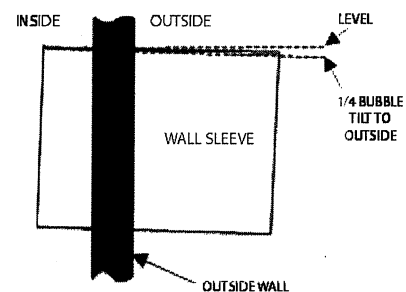

Fig 5. Proper Sleeve Tilt
- A slight downward pitch from the indoor side to the outdoor side as shown below (Fig 5)